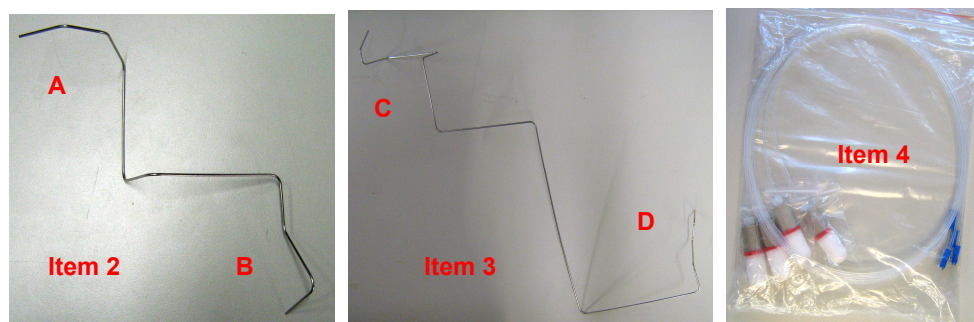
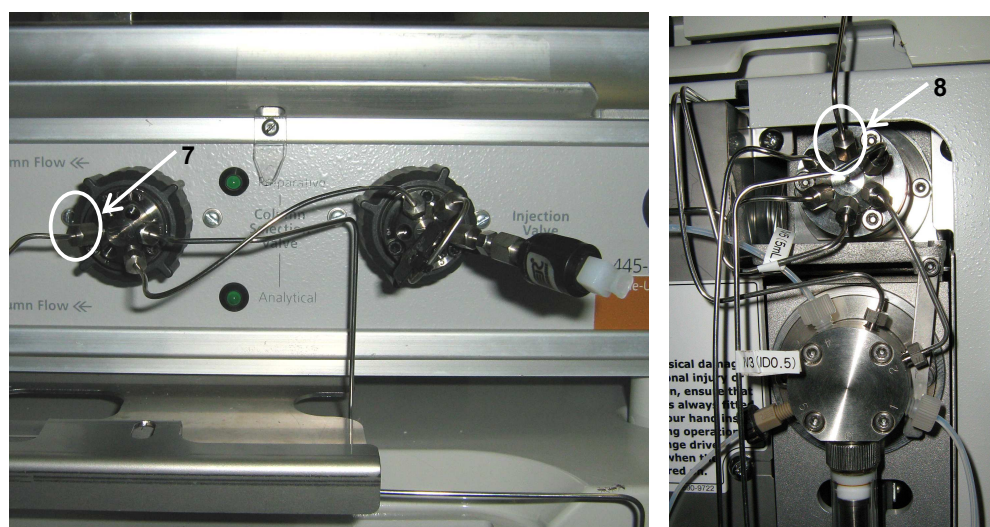
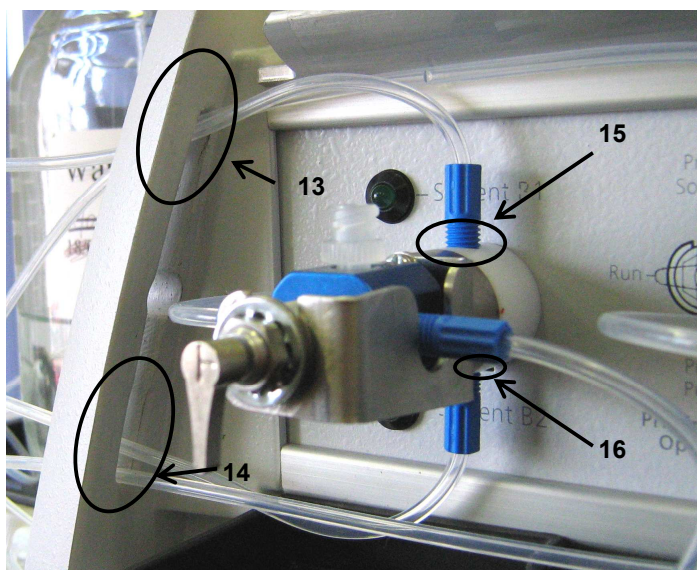
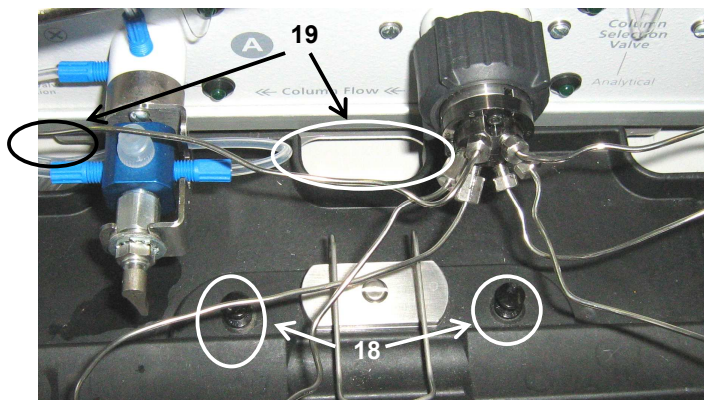

Figure 9: SUM Option Tubing
Figure 11: Connecting the tubing between the autosampler and the SUM
Figure 15: Tubing slot on the SUM
Figure 16: Leak tray holding black fasteners
8. Once the SUM has been plumbed to the pumps, select the tube that connects the autosampler to the SUM (Item 2, *Figure 9*) and attach the appropriate ferrules and nut to it
9. The **B** side (*Figure 9*) of the tubing (Item 2) should have the Autosampler nut and ferrule (*Figure 10*) connected to it while the **A** side has one of the 2 SUM nuts and ferrules connected to it. Once the nuts and ferrules have been connected properly to the tubing (for the ferrule orientation check the directionality in *Figure 10*), the tubing can be connected from the SUM column selection valve position 6 (7) to the injection valve of the autosampler position 2 (8) *Figure 11*.
14. Unpack the solvent bottle lines Item 4 *Figure 9*, and make sure that you run the new lines through the side of the SUM frame. You will need to run the line connecting to the top of the valve through the top of the slot (13) in the SUM, and the one connecting to the bottom of the valve through the bottom of the slot (14) in *Figure 15*.
15. Connect solvent B1 to the top (15) of the solvent B selection valve, and connect solvent B2 to the bottom (16) of the solvent B selection valve (*Figure 15*). Repeat the same process for the solvent A selection valve.
16. Reattach the spill tray onto the SUM (Figure 15) threading the lines connecting to the autosampler, detector and the de-bubbler through the cutouts provided (19). Once the tray is on push in the retaining buttons (18) to secure it to the SUM frame (Figure 16).